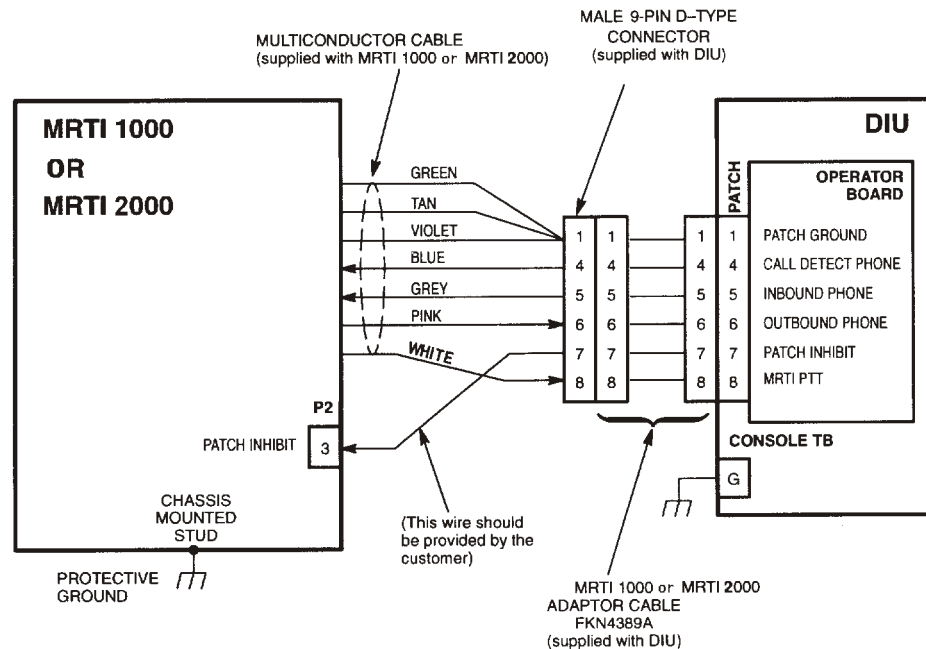

Figure 3
- Step 1.** Solder the MRTI multiconductor cable conductors, to the 9-pin D-Type connector supplied with the DIU, according to Figure 3.
- Step 2.** Solder a wire (not included), between pin 7 of the 9-pin D-Type connector supplied with the DIU, and pin 3 of the optional plug supplied with the MRTI, according to Figure 3.